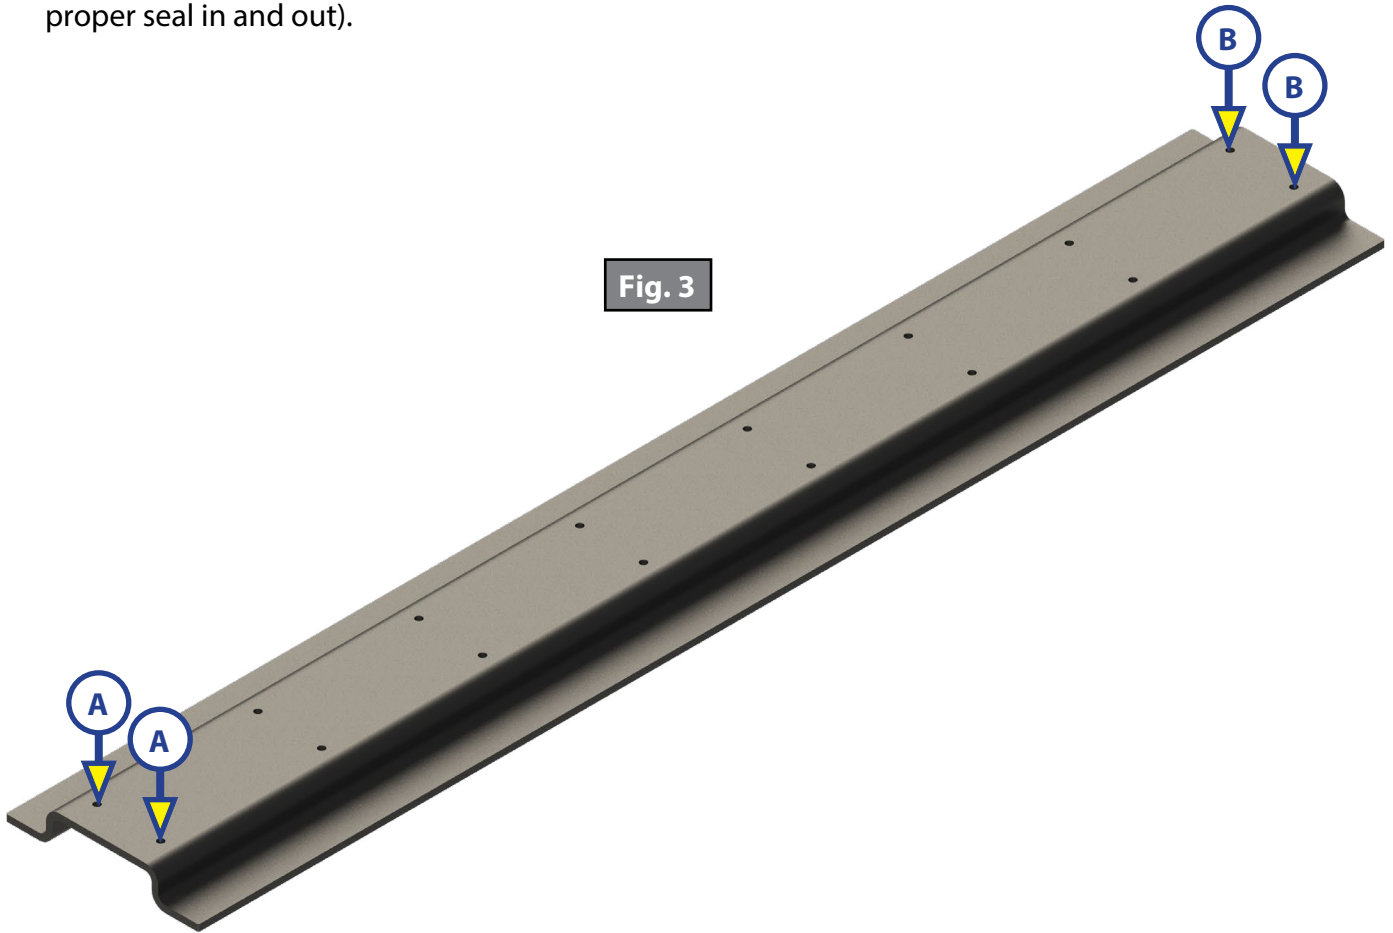

Fig. 3
1. Place room on top of the hat channel(s) (Fig. 3). Center the room in the slide opening.